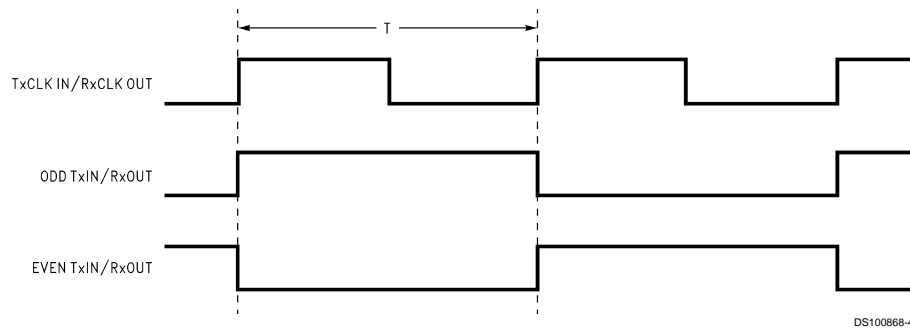

FIGURE 1. "Worst Case" Test Pattern (Note 7)
**Note 9:** Figures 1, 2, 3 show a falling edge data strobe (TxCLK IN/RxCLK OUT).